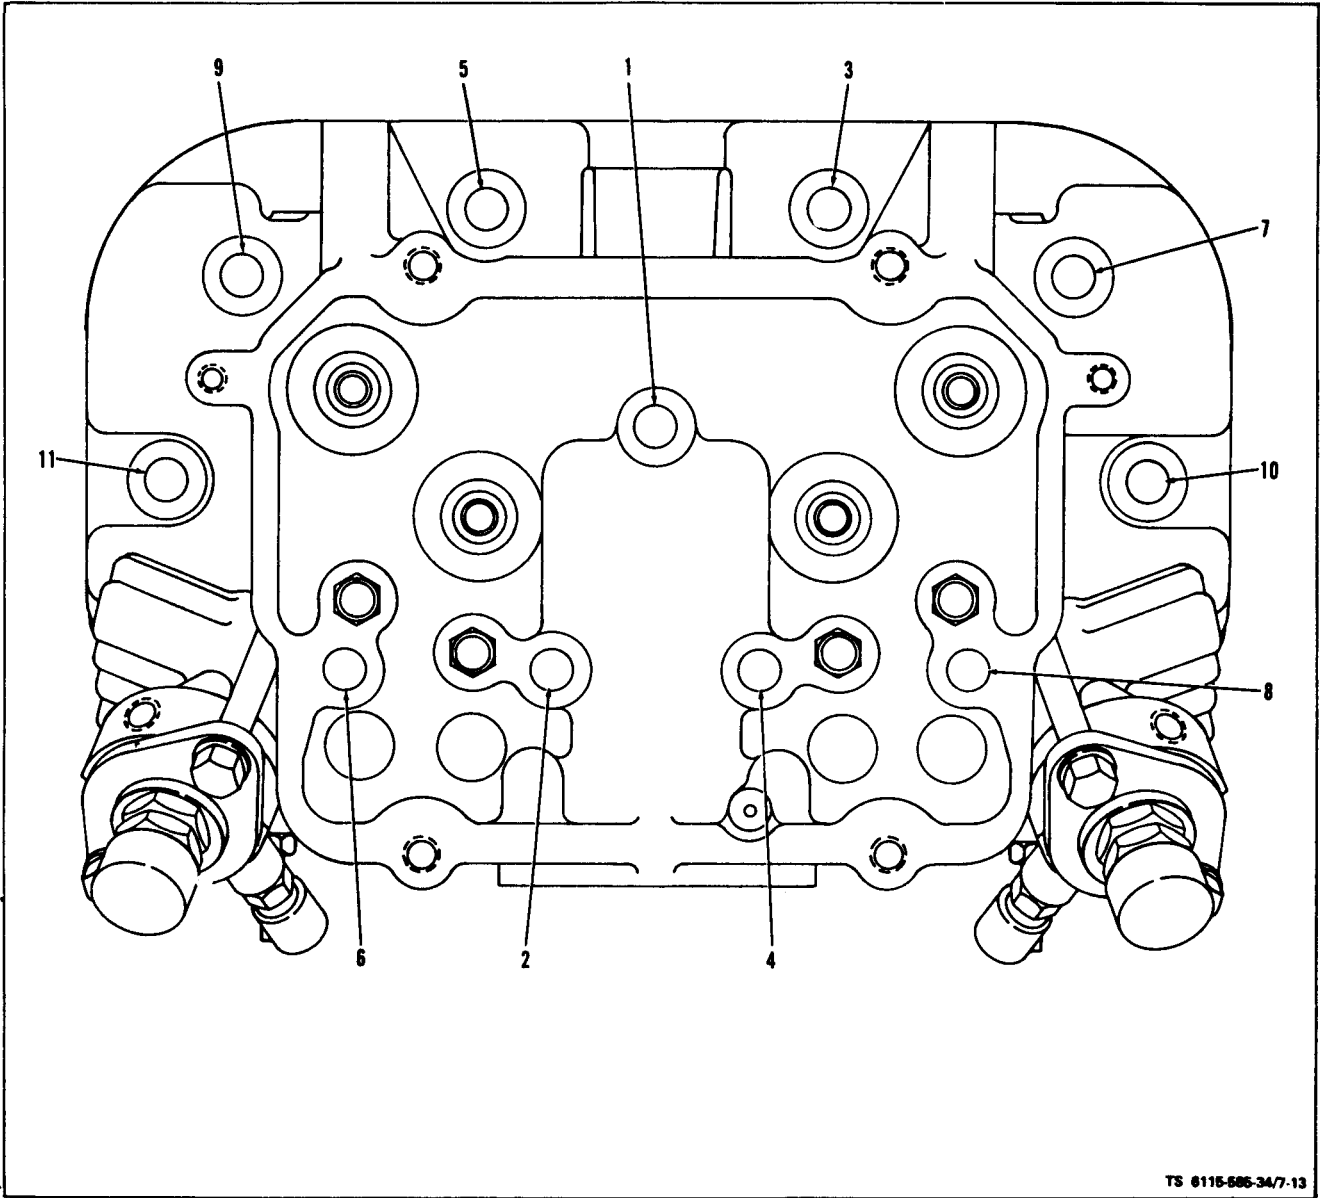

Figure 7-13. Cylinder Head Bolt Tightening Sequence
(2) Refer to Operator and Organizational Maintenance Manual and install intake manifold. Torque bolts 13-15 ft-lbs (see table 1-1). Bend over lock tabs. Now tighten head bolts 44 to 46 ft-lbs (see table 1-1) following the sequence in figure 7-13.
(6) Install cylinder heads using proper bolt tightening sequence (see figure 7-13).